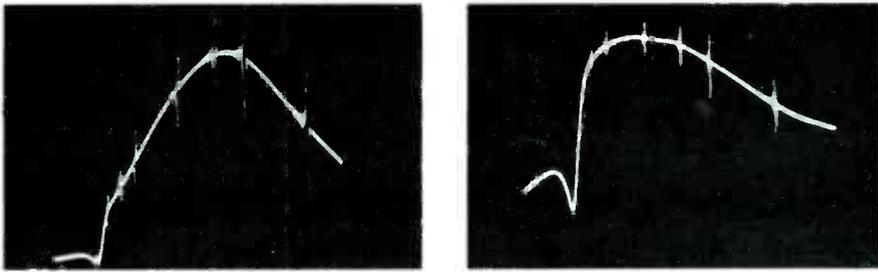

Fig. 8 A) 4th IF transformer curve without the 47-pf capacitor. B) 4th IF transformer curve produced when the 47-pf capacitor is used.
2) Alternately adjust the scope's horizontal gain, vertical and horizontal centering, and the SWEEP WIDTH and CENTER FREQUENCY controls of the generator until the curve on the scope is centered and both the 41.25-MHz and 47.25-MHz markers can be seen. The curve should look somewhat like that shown in Fig. 8. Adjust MARKER AMPLITUDE as needed.